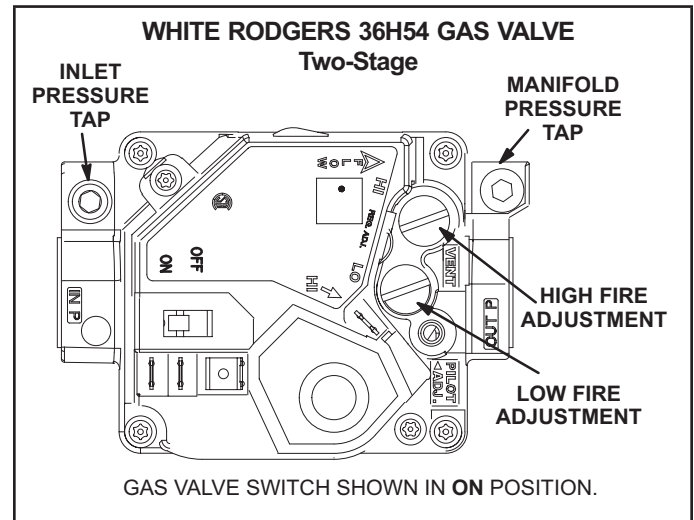

FIGURE 23
### Gas Valve Operation for Honeywell VR8205Q / VR8305Q and White Rodgers 36H54 (FIGURE 23)
- 5 - Turn gas valve switch to **OFF**. See FIGURE 23.
- 6 - Wait five (5) minutes to clear out any gas. If you then smell gas, **STOP!** Immediately call your gas supplier from a neighbor's phone. Follow the gas supplier's instructions. If you do not smell gas, go to the next step.
- 7 - Turn gas valve switch to **ON**. See FIGURE 23.